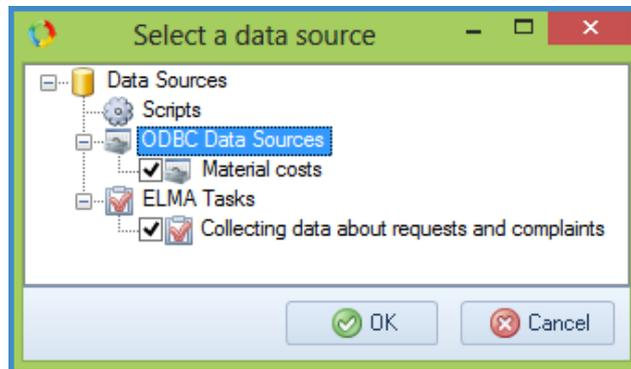

Fig. 45. Selecting the tasks
- Then switch to the **Tasks** tab and clicking on **Add** button check the boxes over the task created earlier and over the ODBC data source (Fig. 45);